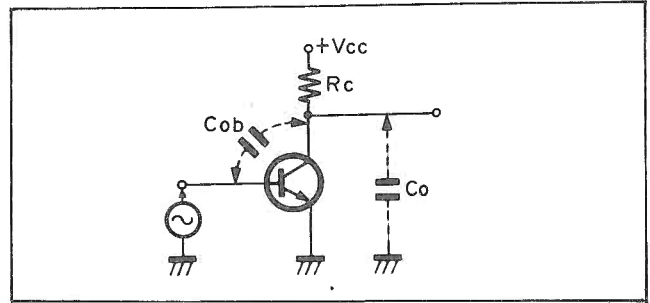
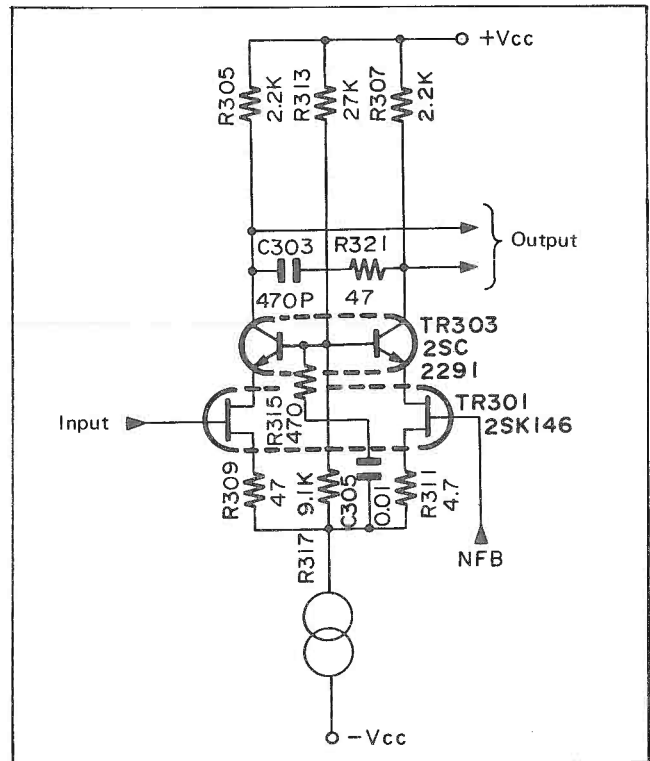

Fig. 15
Fig. 16
1. Cascade Configuration (Fig. 15, 16)
In an ordinary emitter follower circuit, a feedback capacity arises between the transistor's base and collector, and a floating capacity between the collector and ground, as shown in Fig. 15. These unwanted capacities cause high-frequency distortion and impair amplifier linearity. A solution to this problem is shown in Fig. 16. Transistors TR301 and TR303 are connected in series, and the base of TR303 is grounded. This is called cascade configuration, which is largely immune to the effects of feedback or floating capacity.